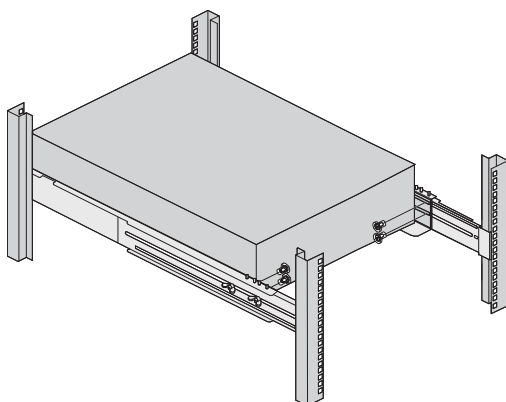

Figure 10. Securing the Rear Hold-Down Brackets
14. **Optional.** If you installed the rear hold-down brackets, secure the brackets to the rear rails using two screws for each bracket (see Figure 10).